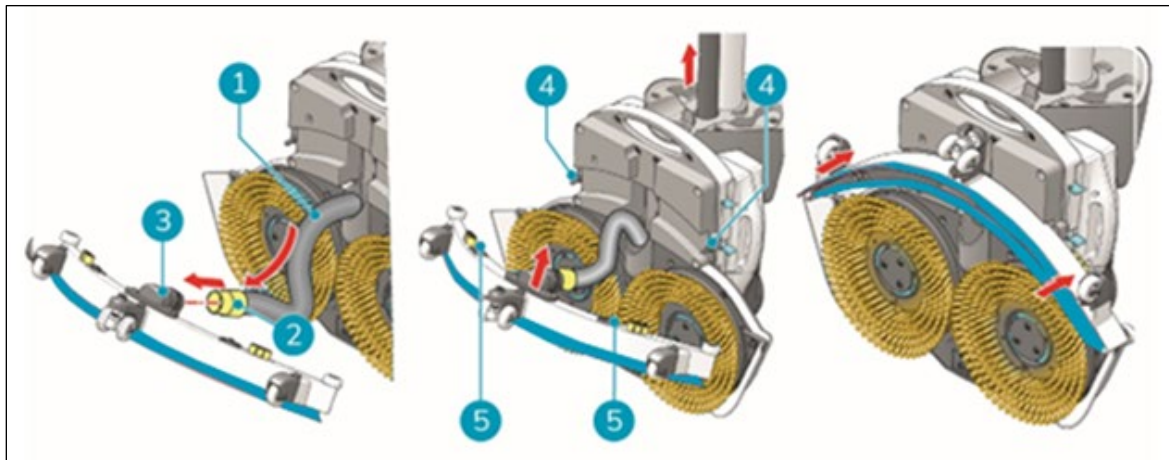

Figure 43
8. Take the vacuum hose (Figure 43, pos. 1).
9. Insert the hose connector (Figure 43, pos. 2) in the squeegee (Figure 43, pos. 3).
10. Twist the hose connector $\frac{1}{4}$ turn for a firm fit (Figure 43, pos. 2).
13. Align the pins on the scrub deck (Figure 43, pos. 4) with the holes on the squeegee (Figure 43, pos. 5).